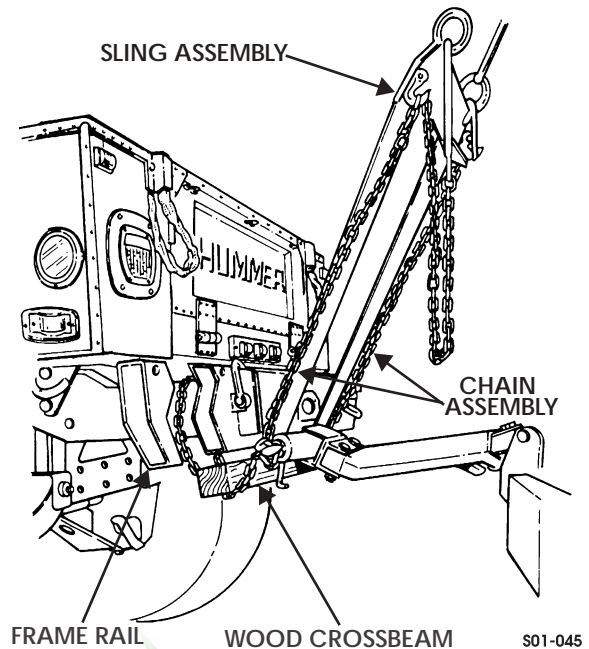

Figure 1-32: Towing From the Rear
1. Loop the wrecker chain assemblies around both rear lower control arms and secure the chain assemblies to the sling assembly. If the vehicle is loaded, loop the chain assemblies around the frame rails (Figure 1-32).